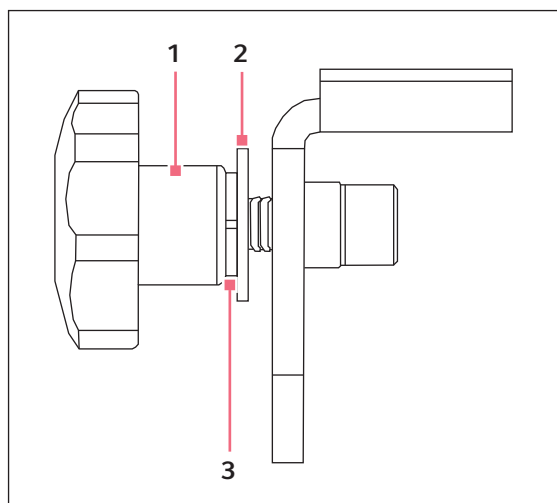

Fig. 4-15: Knob
6. When the platform is fully inserted and mated to the sub-platform, install the flat washer and the lock washer as shown, and then screw the removable knob onto the screw; tighten appropriately (see Fig. 4-15 on p. 30).